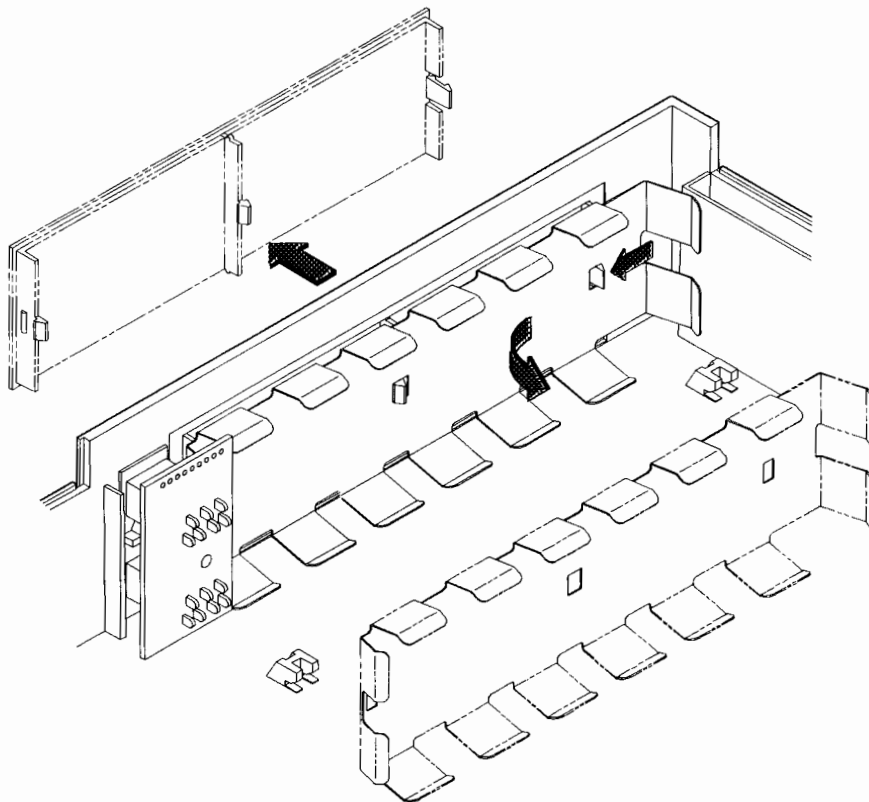

Figure B-27. Removing the Blank Cover Plate
7. Remove the blank bezel plate. Depress the snap tab on one end of the blank bezel plate to remove the metal liner. Then press on the blank bezel until it pops out of the system unit, as shown in Figure B-27. Discard the metal liner plate and the blank bezel plate.